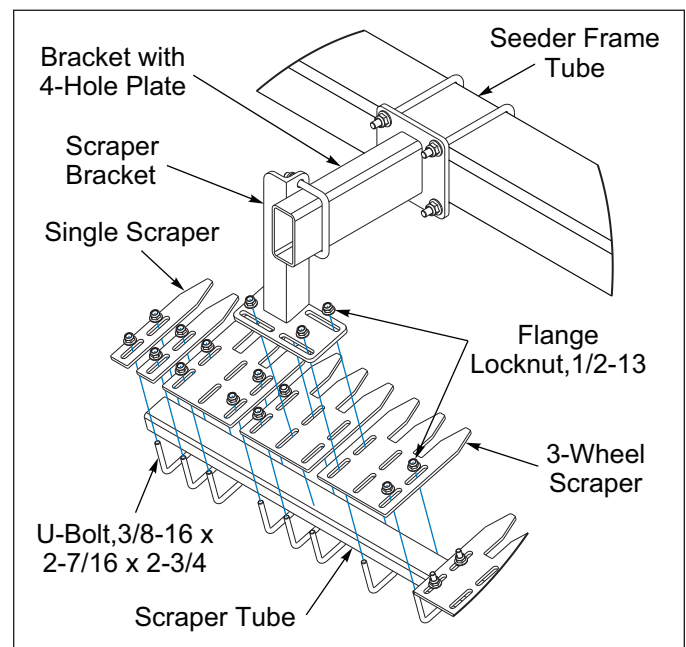
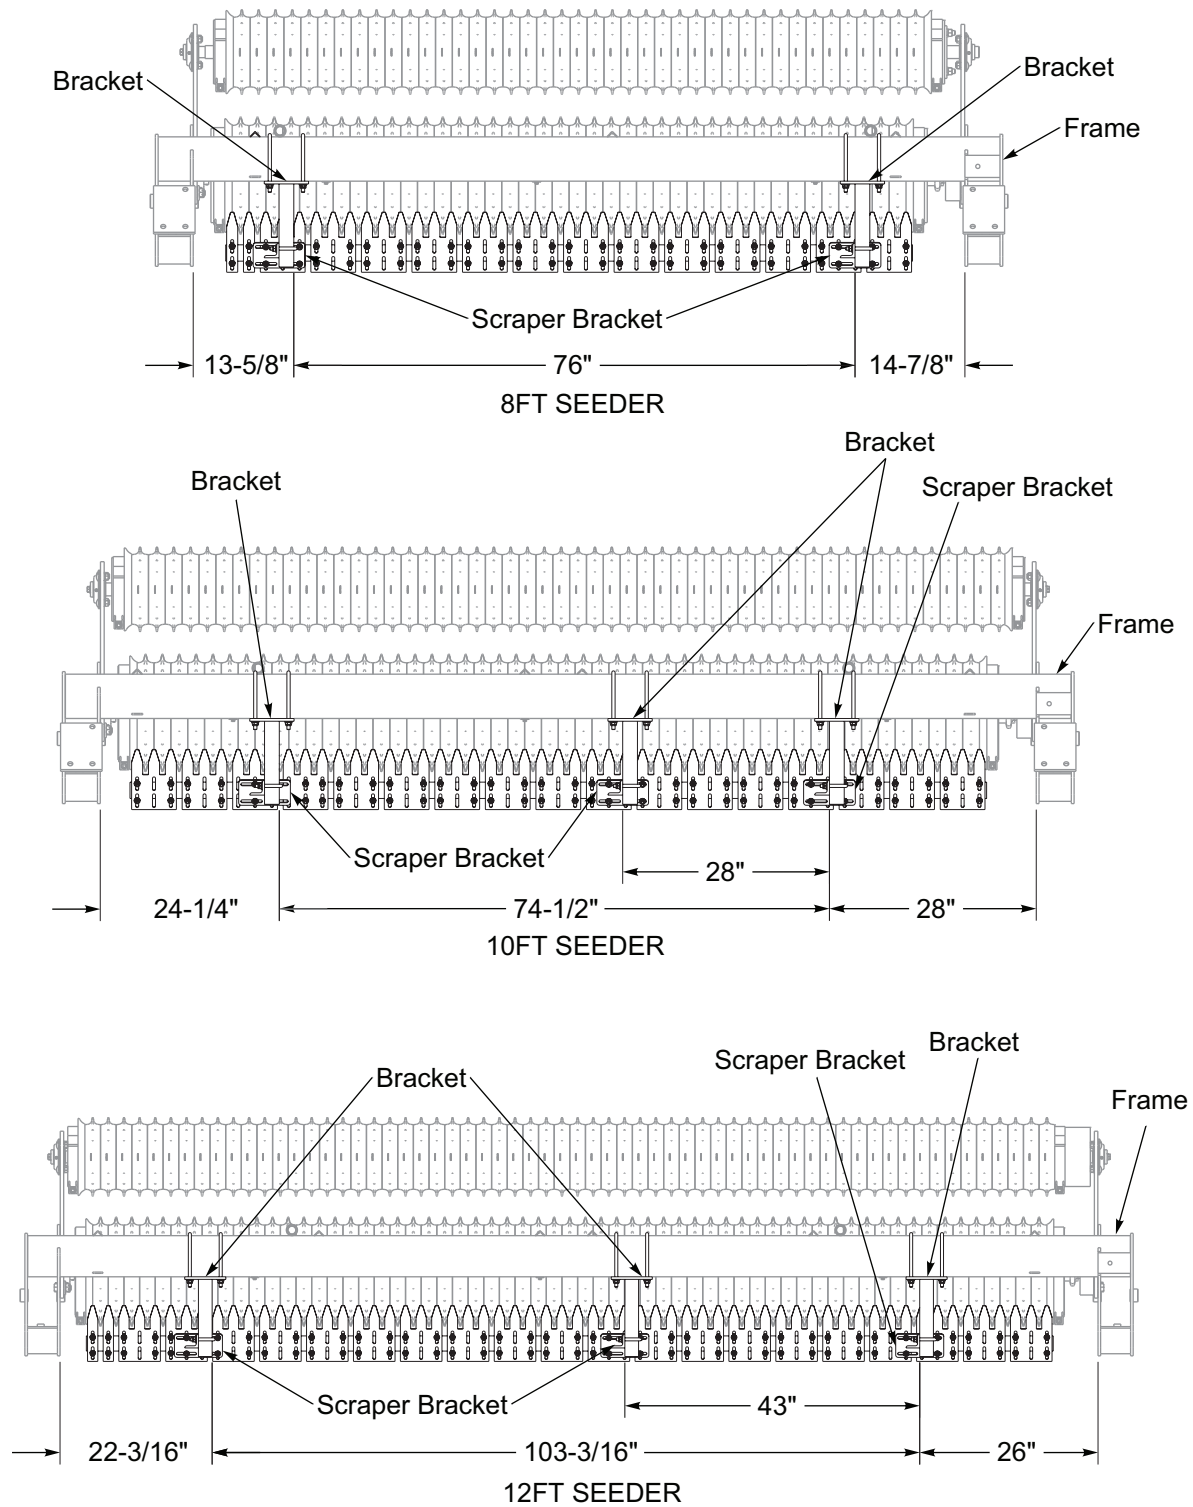

Figure 2-75: Scraper Assembly
Figure 2-76: Scraper Mounting Dimensions - Pull-Type
2. Position and assemble the Brackets with the 4-Hole Plate approximately as dimensioned on the front of the Seeder Frame Tube. See Figures 2-76 and 2-77. Secure with 1/2-13 x 4-1/2 x 7-1/2 U-Bolts and Flange Locknuts.
Scraper Brackets should be positioned per application. Use Figures 2-76 and 2-77 only as a reference.
6. Align the Scraper Brackets Slotted Plate to the appropriate Scrapers and attach with the Scraper 3/8-16 Hardware. **See Figure 2-75.** It may be necessary to use the center pair and an outer pair of slots in the Scraper to attach the Scraper Bracket to the Scraper and Tube Assembly. **See Figures 2-76 and 2-77.**